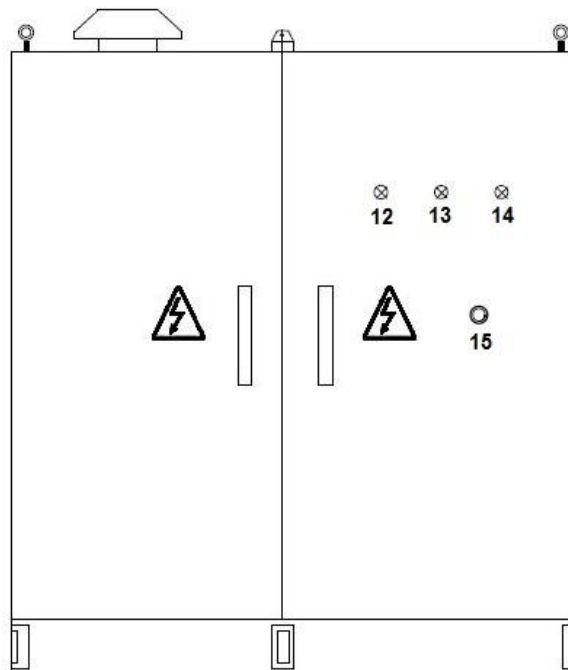

Figure 9.5-1: Q1 Power Panel.
- The Q1 power panel Figure 9.5-1 contains the main electrical power parts for the parallel of the electric generator (isolator, main switch, CT, VT).